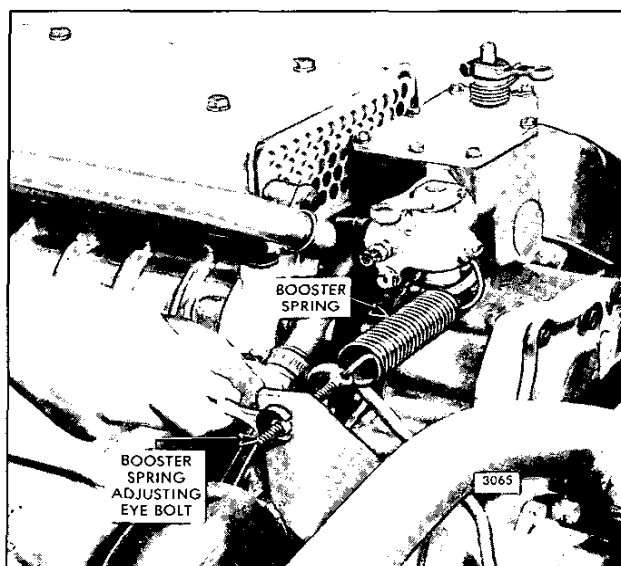

Fig. 9 – Adjusting Booster Spring
1. Refer to Fig. 9 and disconnect the booster spring and the stop lever retracting spring.
2. Refer to Fig. 9 and loosen the booster spring retaining nut on the speed control lever. Loosen the lock nuts on the eye bolt at the opposite end of the booster spring.